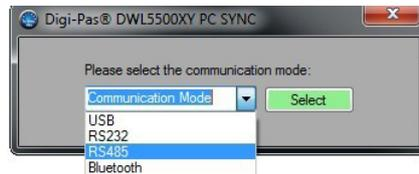

Figure 18. Shortcut of the DWL5`00XY PC SYNC
1. Assuming steps stated in 3.1 Configuration of Single Tilt Sensor Module with Converter and 4.1 Installation of the DWL5x00XY PC SYNC Software have been done in this stage. Open PC SYNC software and select RS485 from the drop down menu as shown in Figure 18.